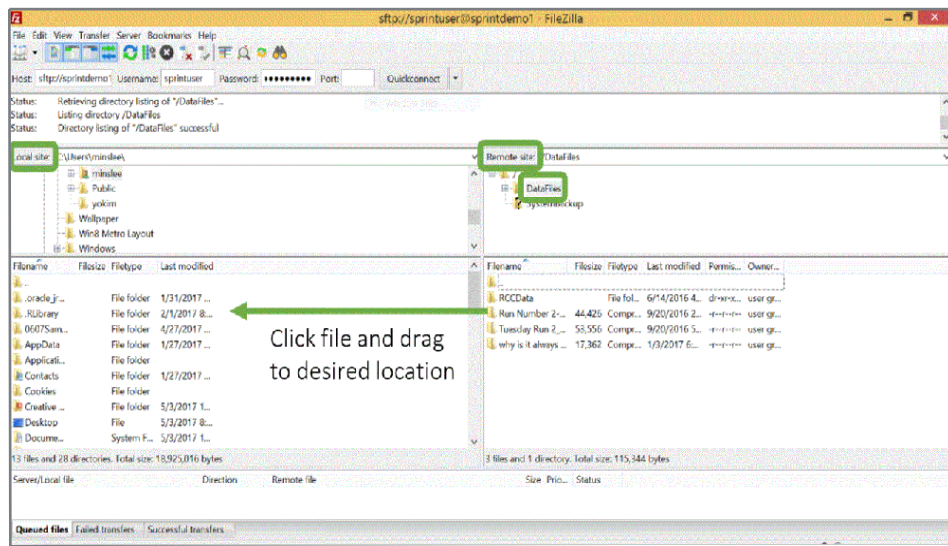

FIGURE 4.22 FileZilla orientation screen
3. The resulting window (**FIGURE 4.22**) will feature Local site file hierarchy and details on the left and Remote site file hierarchy and details on the right. Expand the file tree in each upper window to reveal the associated files in the lower window.